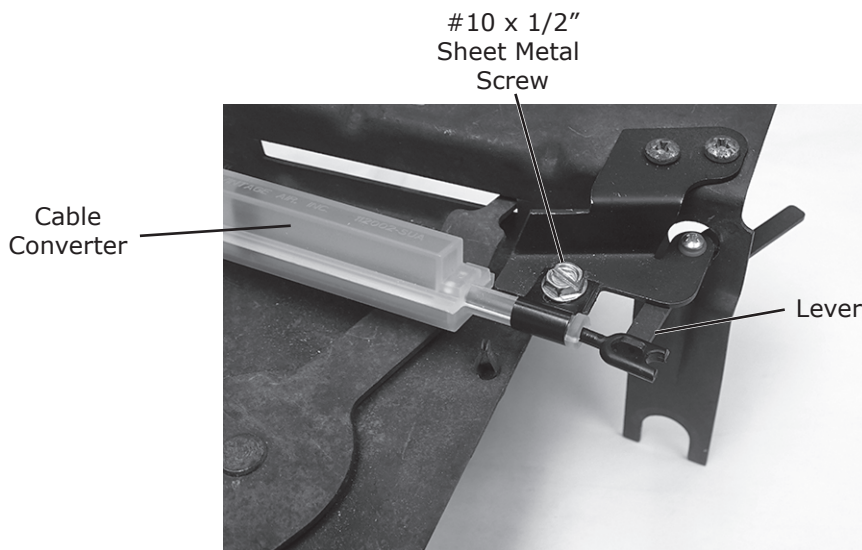

Figure 9
1. Install cable converter lever push rod onto Off/Hi lever as shown in Figure 9, below.
2. Secure the cable converter assembly to the Off/Hi bracket using a #10 x 1/2" sheet metal screw as shown in Figure 9, below.